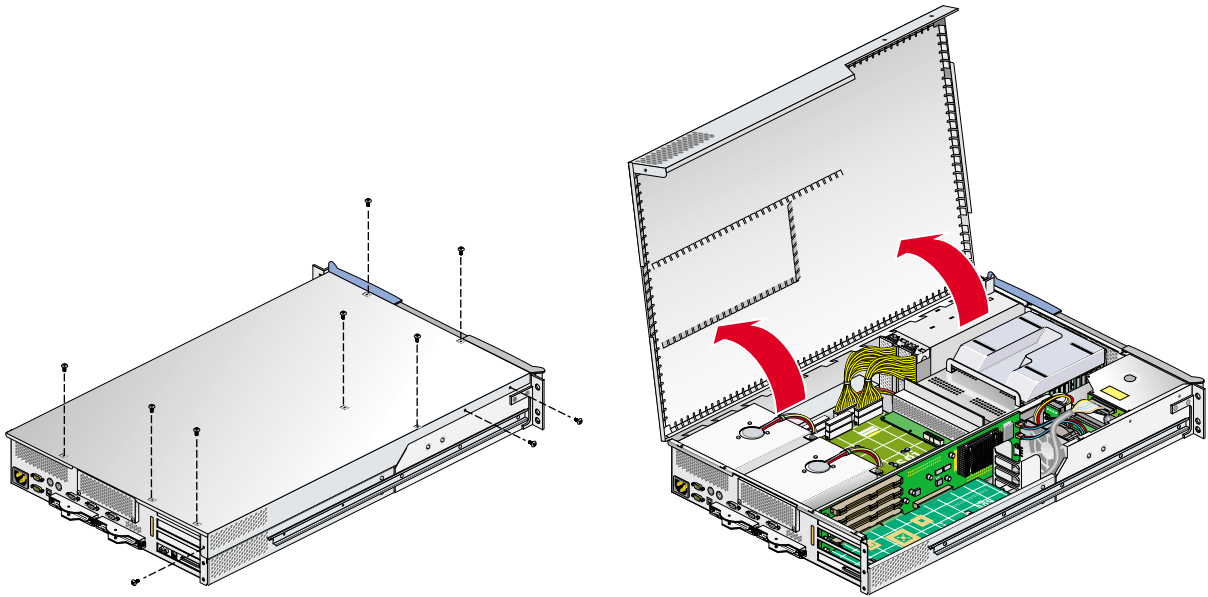

Figure 6-25 Opening Module Cover to Install DIMMs
5. To access the DIMMs, remove the ten Phillips screws shown in Figure 6-25 and lift and open the hinged cover.